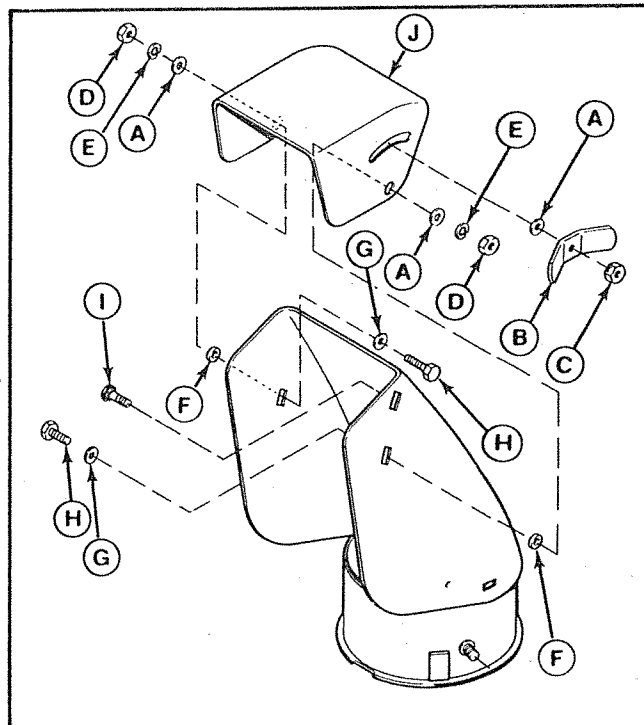

Figure 18. Installing Deflector
8. Attach the deflector (J, figure 18) to the spout extension with two screws (H), washers (G), spacers (F), washers (A), lockwashers (E) and nuts (D).